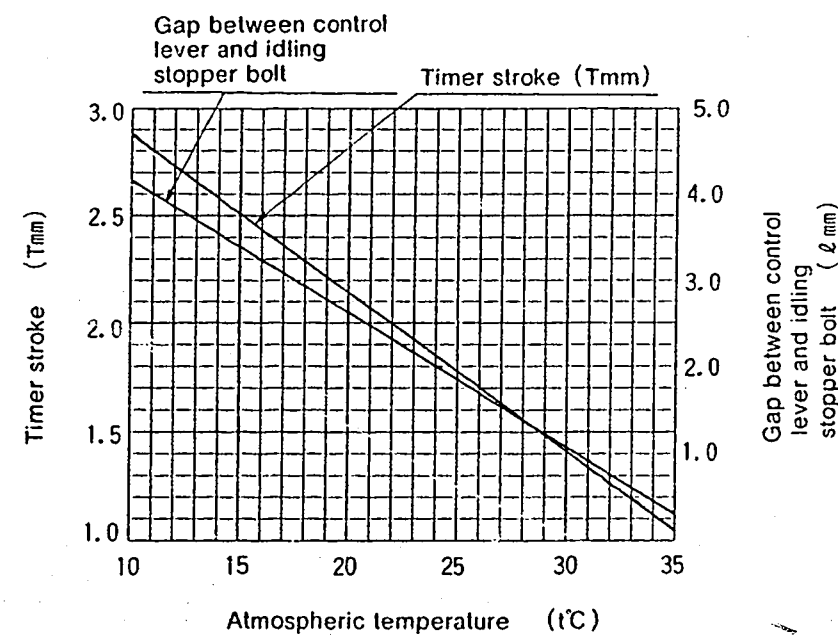

Fig. 2
1. Calculate the timer stroke from Fig. 2 according to the atmospheric temperature at the time of adjustment.
1. Calculate the block gauge dimension $\ell \pm 0.05\text{mm}$ from Fig. 2 according to the atmospheric temperature at the time of adjustment.